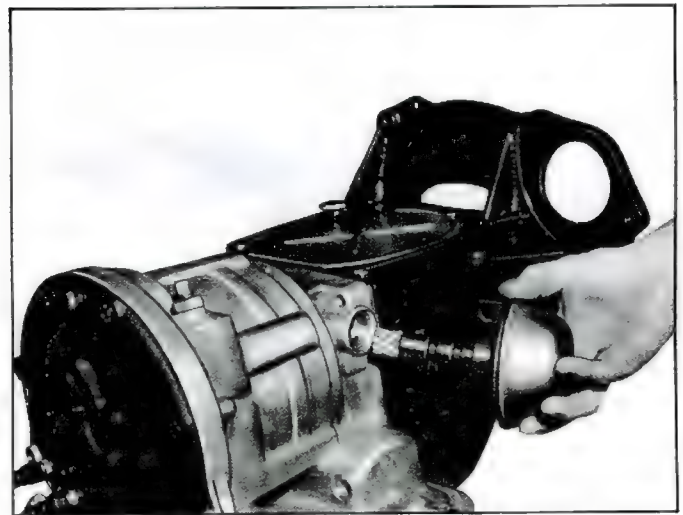

Fig. 6—Removing Governor
3. Remove the screw securing the governor assembly to the Transaxle and remove governor (fig. 6).